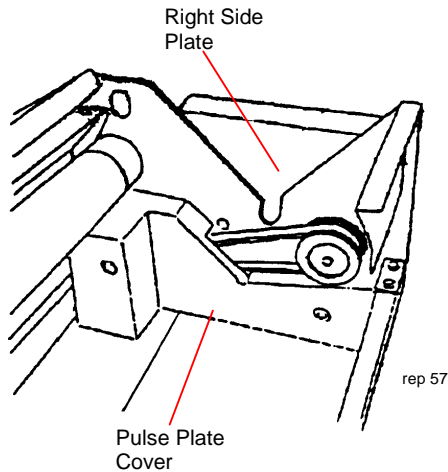

Figure 1. Removing the Cover
3. (Figure 1): Remove the two screws and remove the Pulse Plate Cover.